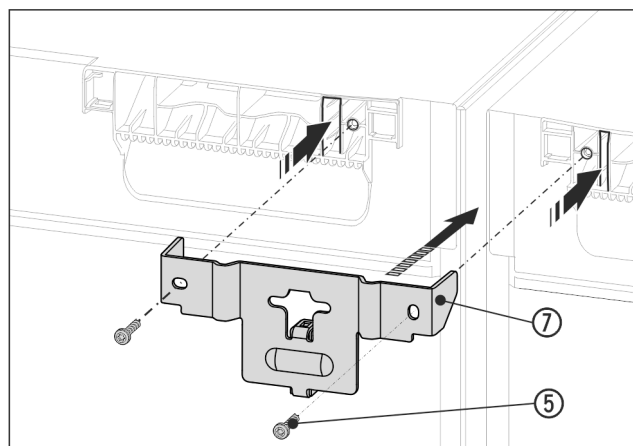

Fig. 15 Example illustration
- Slide the bracket Fig. 15 (7) onto the appliance ceiling with the lugs and with the spacer between the appliances. Screw in firmly with 2 screws Fig. 15 (5).